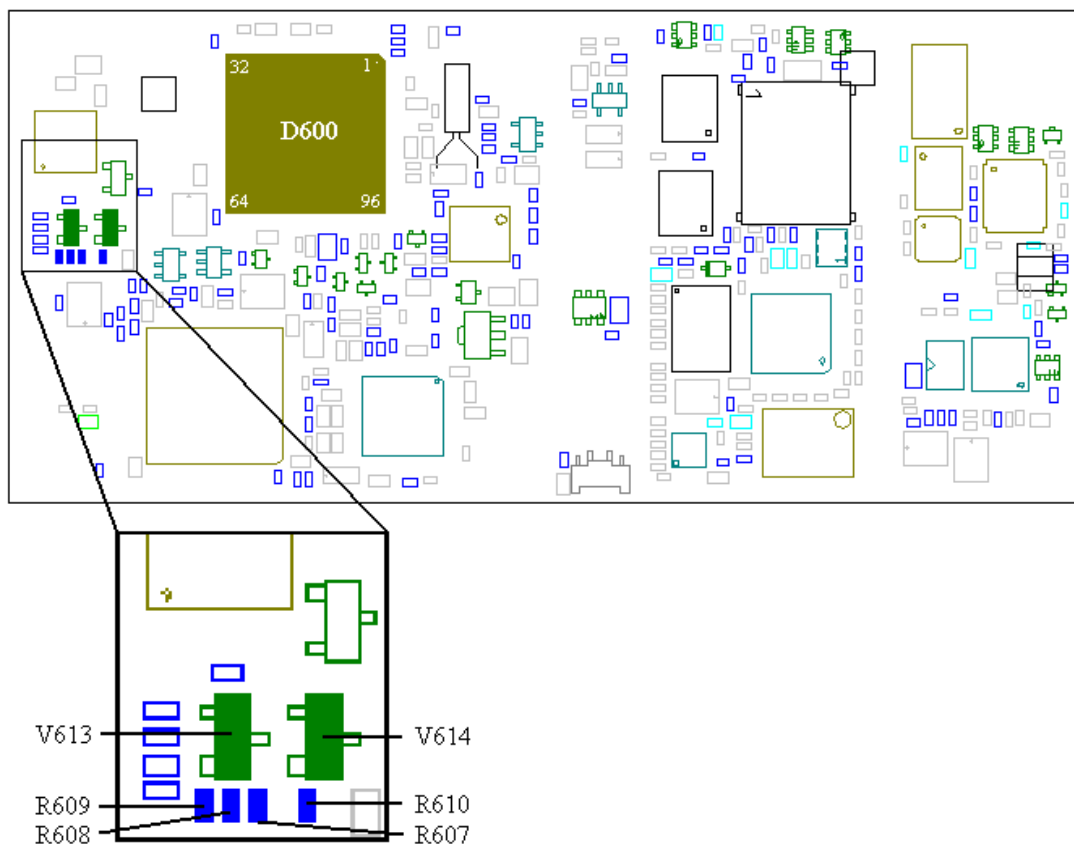

Fig. 9.2
- If the voltage is correct, replace V613 and R609 (class A, fig. 9.2).
- If the voltage is correct, replace V614 and R610 (class A, fig. 9.2).
- * If it's correct, replace R607 and R608 (class A, fig. 9.2).
* If the soldering is correct, replace D600 (class B, fig. 9.2).
* If it's correct, replace D600 (class B, fig. 9.2).
- * If it's correct, replace D600 (class B, fig. 9.2).